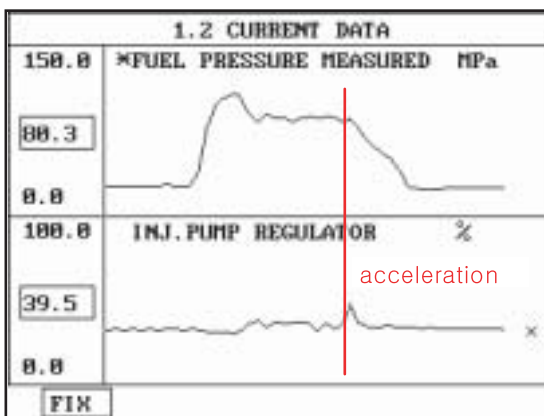

Fig.3
- Fig.3) Fuel pressure and Fuel pressure regulator valve data at acceleration.